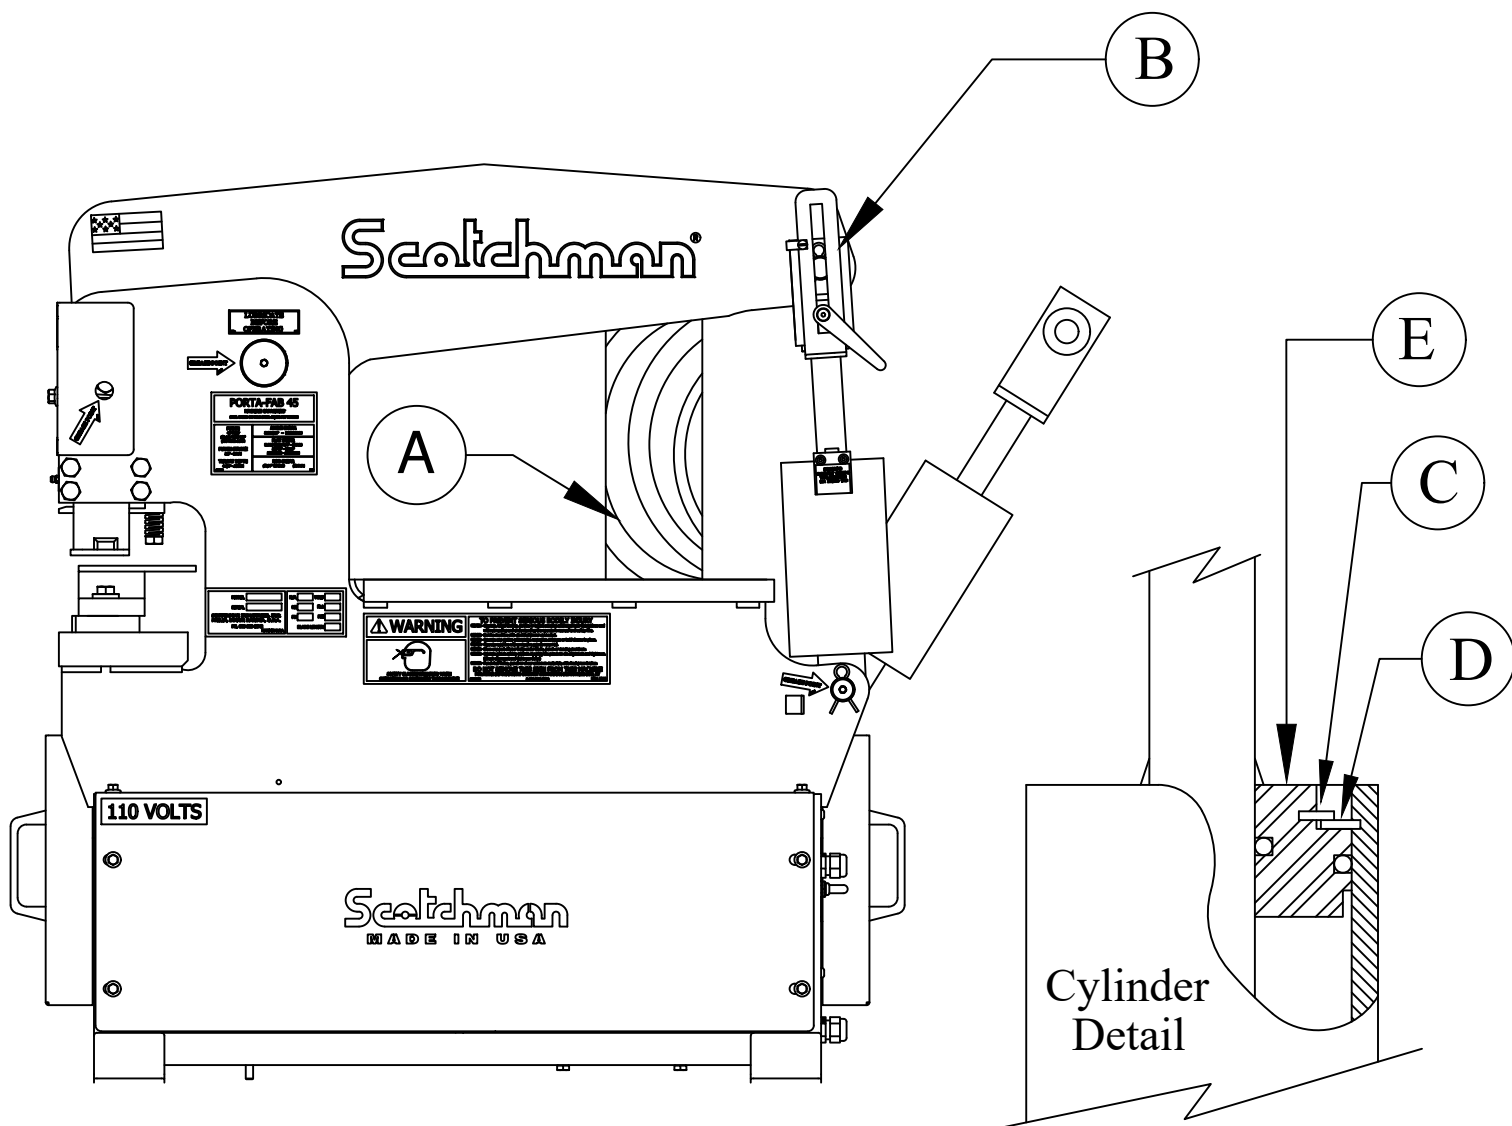

FIGURE 22
**SEE FIGURE 22 ON THE FOLLOWING PAGE.**
- 2. Block the arm up on the tool table. SEE ITEM (A).**
- 4. Remove the cylinder clevis pin (B) and swing the cylinder out away from the arm.**
- 5. Remove the retaining ring (C) from the top of the cylinder.**
- 6. Tap the head down into the tube and remove the second ring (D).**
- 7. Place the pin (B) through the clevis and pull the cylinder apart, using a come-along or similar device.**